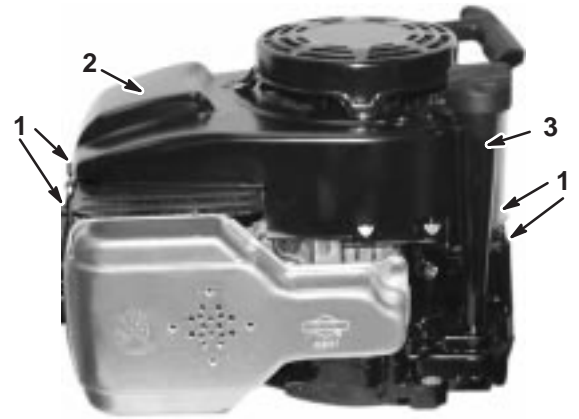

Fig. 149 – Removing Dipstick and Oil Fill Tube, Blower Housing and Rewind Starter
4. Remove blower housing and rewind starter, Fig. 149.